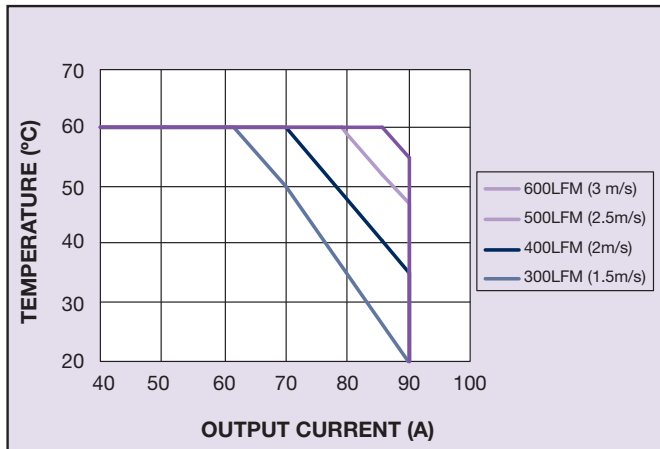

Figure 1: Typical Thermal Derating At Sea Level
- 5 Maximum current requires adequate forced air over the converter. Please consult Figure 1 for thermal derating.